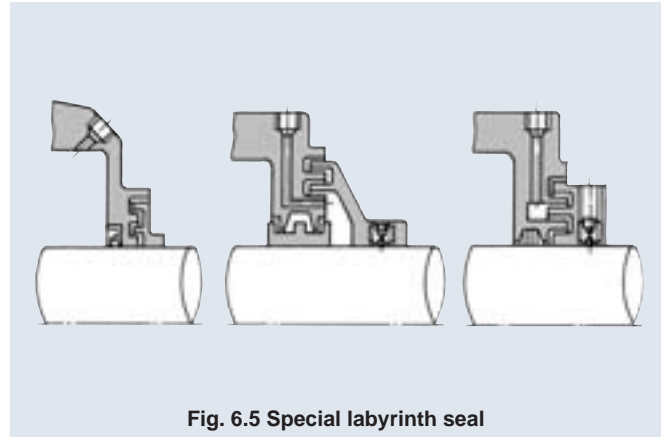

Fig. 6.5 Special labyrinth seal
### (2) Special labyrinth seal (Fig. 6.5)
The special labyrinth seals such as those in Fig. 6.5 are very useful for applications where heavy soil and dust are present.